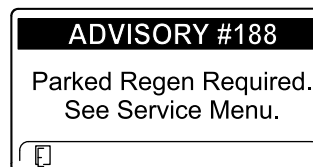

Figure 51
- Parked regeneration required ADVISORY #188 (Figure 51)